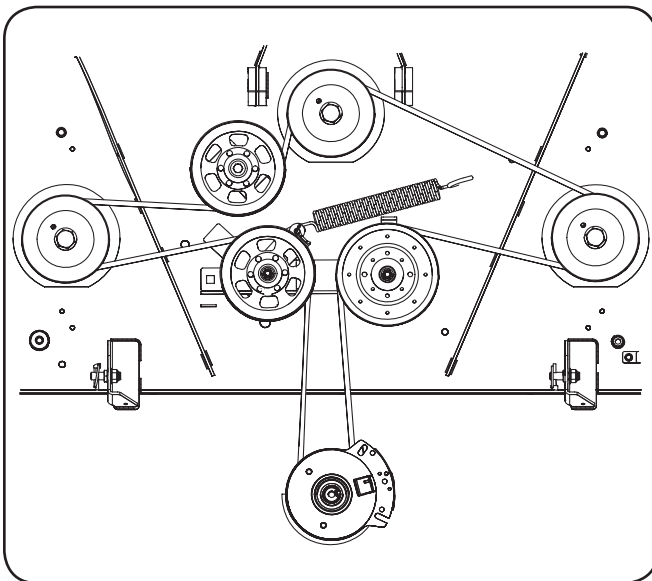

Figure 7-9
- Place the belt around the idler pulleys removed in step 3 with the "V" side facing in. Once in place, reinstall all the hardware and tighten the flange lock nut to secure the assembly. See Figure 7-9.
- Route the belt as shown in Figure 7-9 and then reinstall the deck (refer to Deck Installation).